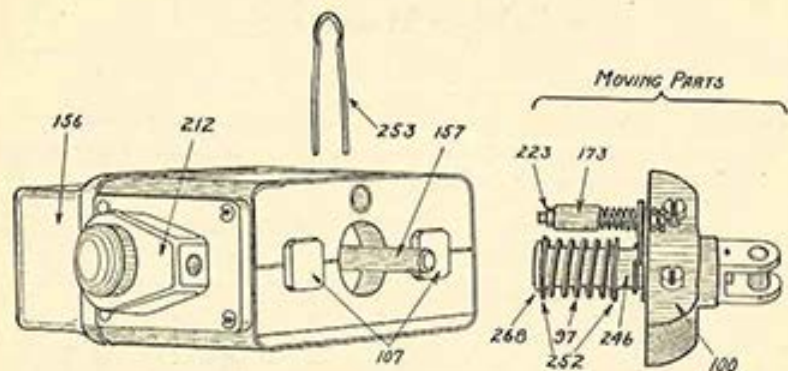
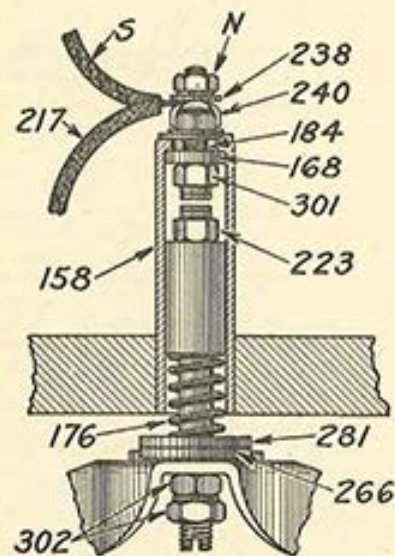

Figure 17
Figure 18
Figure 17 shows the stationary and moving parts of the Wico Magneto. Figure 18 shows the parts with numbers of the breaker point group.
(See Figure 18)
The breaker point contacts (301) and (223) should just touch when the armature (100) is 7-64" from the cores (107). To adjust, trip the armature from its contact with the cores, and insert a strip of metal 7-64" thick between the armature (100) and the face of the cores. Loosen the nuts (302) on the breaker point stem, (see Figure 18), and turn the upper nut until the contact (223) just touches the contact (301). Then set up the lower nut tight against the upper nut. As soon as adjustment has been made, be sure to remove the strip that you placed between armature and cores.
To replace the moving contact (223):—Withdraw the moving parts (see Figure 17) and remove the old contact and its spring (176) from the breaker point plate by unscrewing the two nuts (302). Substitute the new moving contact, being careful to replace the felt washers (266 and 281) as shown in Figure 18.
To replace fixed contact (301):—Remove the front cover and the spring support (253) and withdraw the moving parts (see Figure 17). Disconnect condenser lead (S) and primary lead (217) from breaking point tube (158). Remove all nuts and washers from shank of the contact (301) and push contact down and out of tube. There are two insulating washers (168 and 184) inside of tube and these should be removed also.
Remove the front cover and use a small wire or piece of wood to remove any dirt from the surfaces of the contacts (301 and 223) and from the insulating washer (168). (See Figure 18). See that electrical connections are tight.